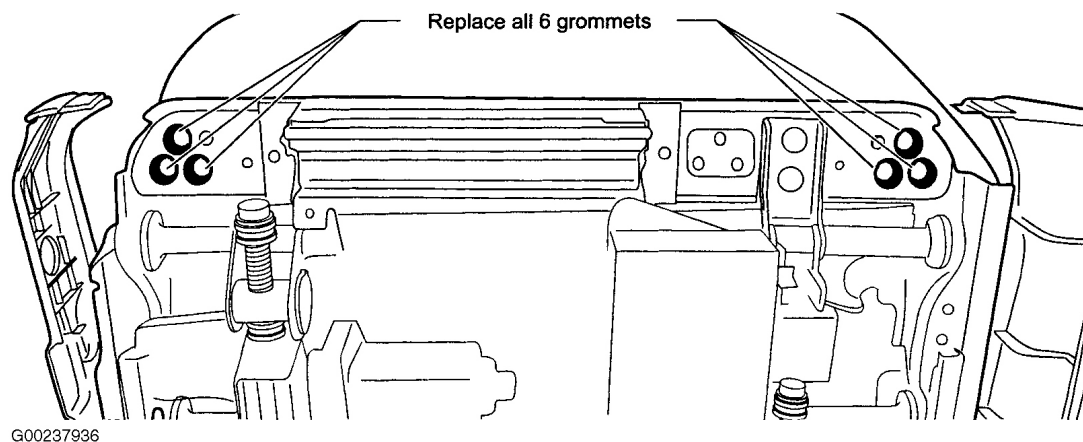

Fig. 10: Rubber Grommet Locations
6. Replace all six rubber grommets (3 on each side) from the kit (see **Fig. 10**).